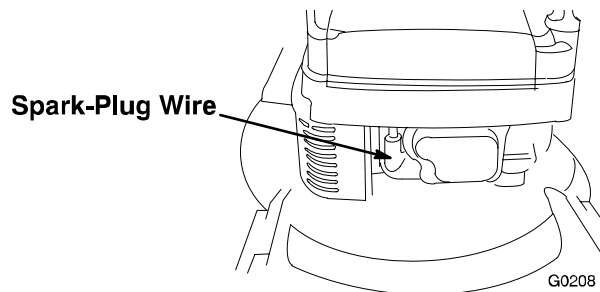

Figure 7
1. Connect the wire to the spark plug (For Honda Units: See Figure 5, For Kawasaki Units: See Figure 7).